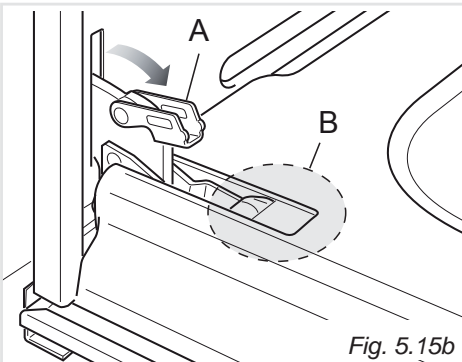
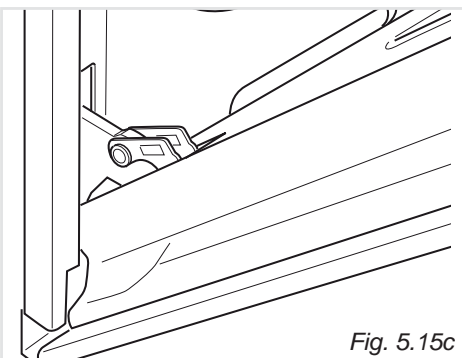

Fig. 5.15b
Fig. 5.15c
- Open the lever "A" completely on the left and right hinges (fig. 5.15b).
- Gently close the door (fig. 5.15c) until left and right hinge levers "A" are hooked to part "B" of the door (fig. 5.15b)